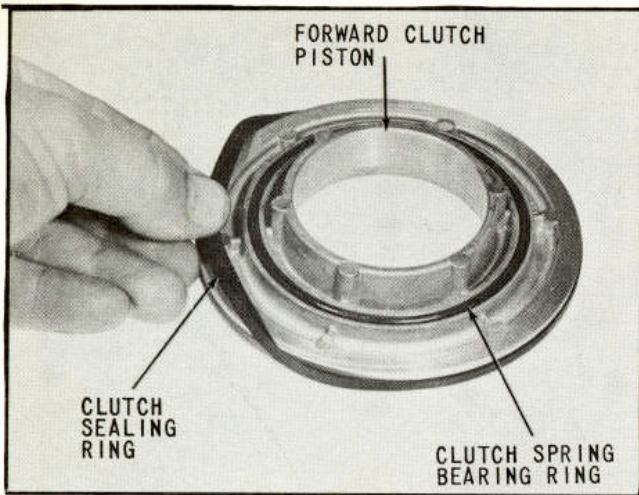

Fig. 34 Installing Clutch Sealing Ring
25. Assemble on the forward clutch piston, the clutch spring bearing ring and a lubricated clutch sealing ring, as shown in (Fig. 34). Inspect the inside diameter of the forward clutch piston having contact with the sealing ring; remove all